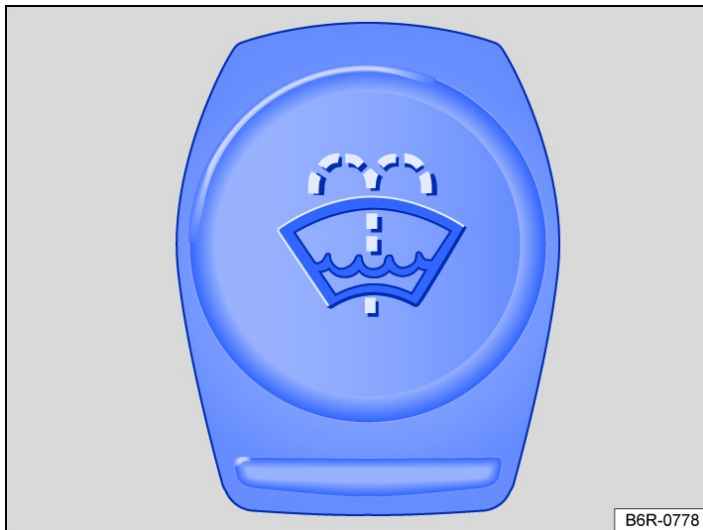

Fig. 1 In the engine compartment: cap of washer fluid reservoir.
- The washer fluid reservoir is identified by the  symbol on the cap → *Fig. 1*.